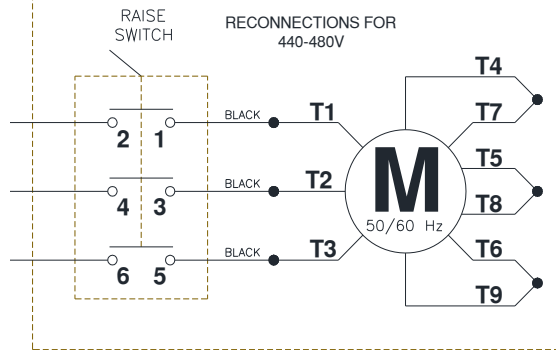

Fig. 23 – Electrical Wiring Diagram
See Figure 23 for the following steps.
47) Connect the Overhead Limit Switch Cord to Power Unit as shown in **Fig. 23**.
48) Connect Power Unit to suitable electrical source as shown in **Fig. 23**.